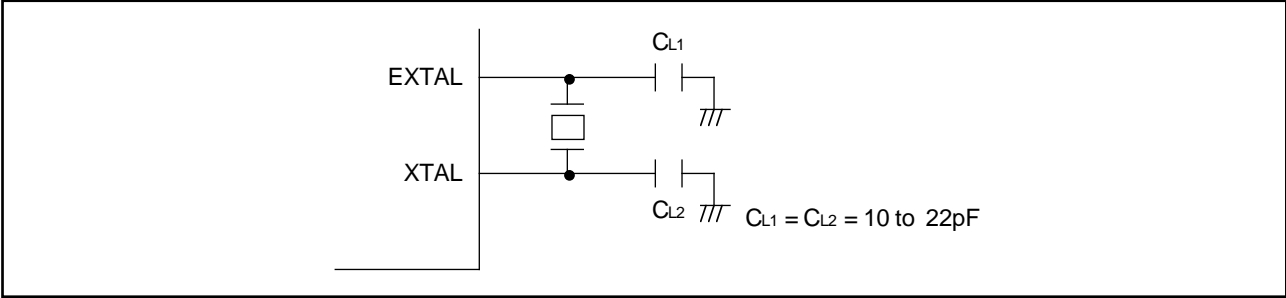

Figure 13-2. Connection of Crystal Oscillator (Example)
(1) Connecting an External Crystal
① **Circuit Configuration:** An external crystal can be connected as in the example in figure 13-2. An AT-cut parallel resonating crystal should be used.